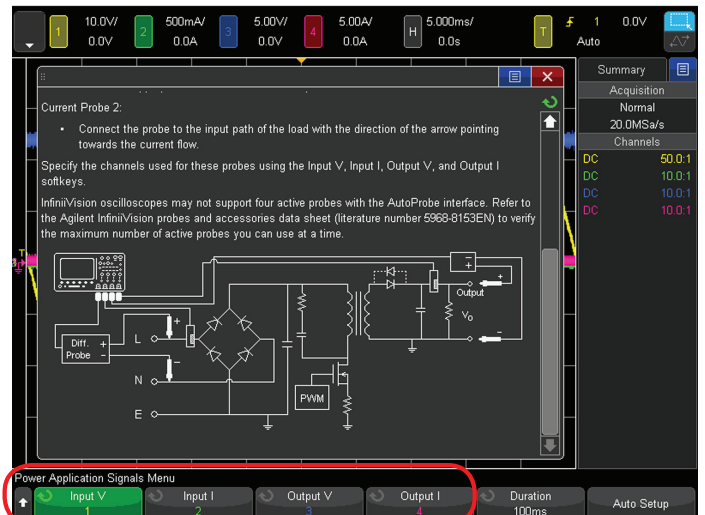

Figure 38: Efficiency measurement connections diagram in the Signals menu
5. Connect the N2790A high-voltage differential active probe between the scope's channel-1 input to Line (red lead) and Neutral (black lead) as illustrated in the on-screen connections diagram shown in Figure 38. If using Keysight's SMPS training kit, connect to TP2 (red lead) and TP1 (black lead)